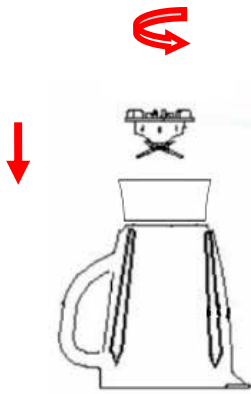

Fig.3
- 1) Invert the jar onto a level surface, holding the jar handle, put the the blade assembly onto the jar base bottom and secure the blade assembly by turning it anti-clockwise until tight (See Fig.3)